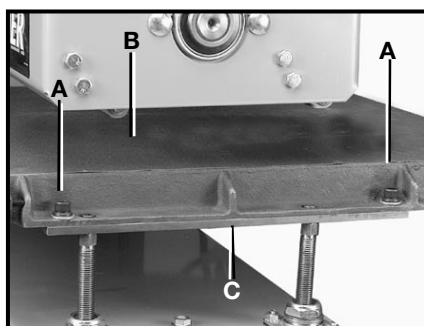

Fig. 6
5. Unplug the DC motor electrical quick connection. Remove the four screws, washers, and nuts (A) Fig. 6 which secure the sanding table (B) to the mounting plate (C). Remove the sanding table.